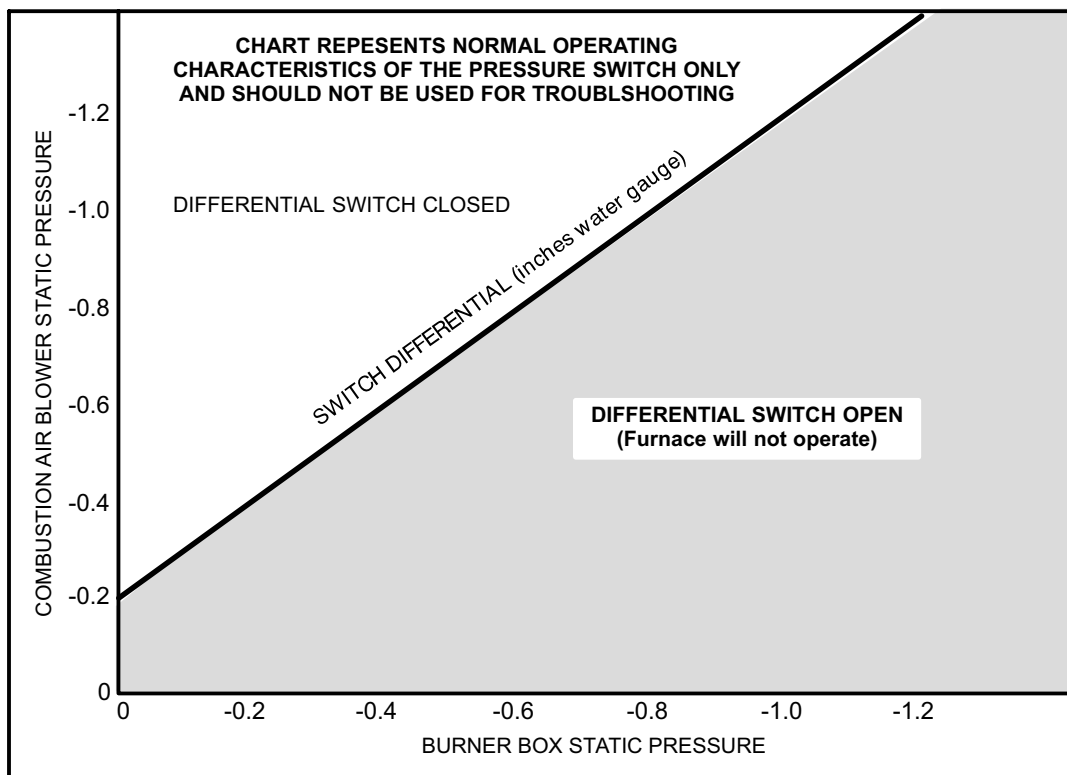

FIGURE 24
Figure 24 shows the pressure differential required to obtain unit operation. If the switch does not successfully sense the required differential, the switch cannot close and the furnace cannot operate.
Checks of pressure differential can be made as an aid in troubleshooting. It is important to remember that the switch must “see” 0.2 inches differential in order for the furnace to operate. Lack of differential usually indicates problems in the intake or exhaust piping but may indicate problems in the heat exchanger, condenser coil, header boxes, combustion blower or other components. Generally, if both readings are closer to zero (figure 24) the unit may have a restricted flue outlet or other problem. If both readings are farther from zero (figure 24) the unit may have a restricted flue inlet or other problem.
- b. Take a second reading after unit has reached steady state (approximately 5 minutes). Both readings should fall above the line shown in figure 24.
- 10- Compare readings to figure 24. Be sure to compare only like readings (compare startup reading to startup reading, then compare steady state reading to steady state reading). Subtract the absolute steady state readings from one another. This will be the pressure differential. **In order for the furnace to operate, the larger negative must always be on the combustion air blower side of the switch**